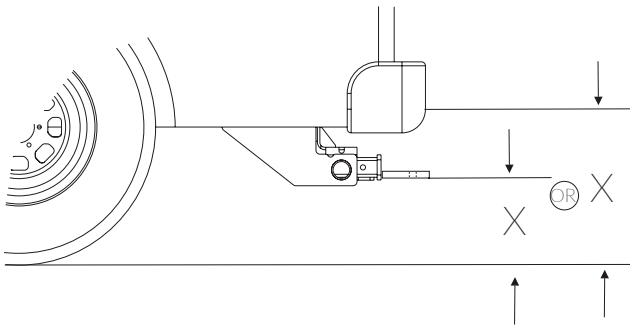

Figure 4-19
3. Adjust for bumper height. *See Figure 4-19.*